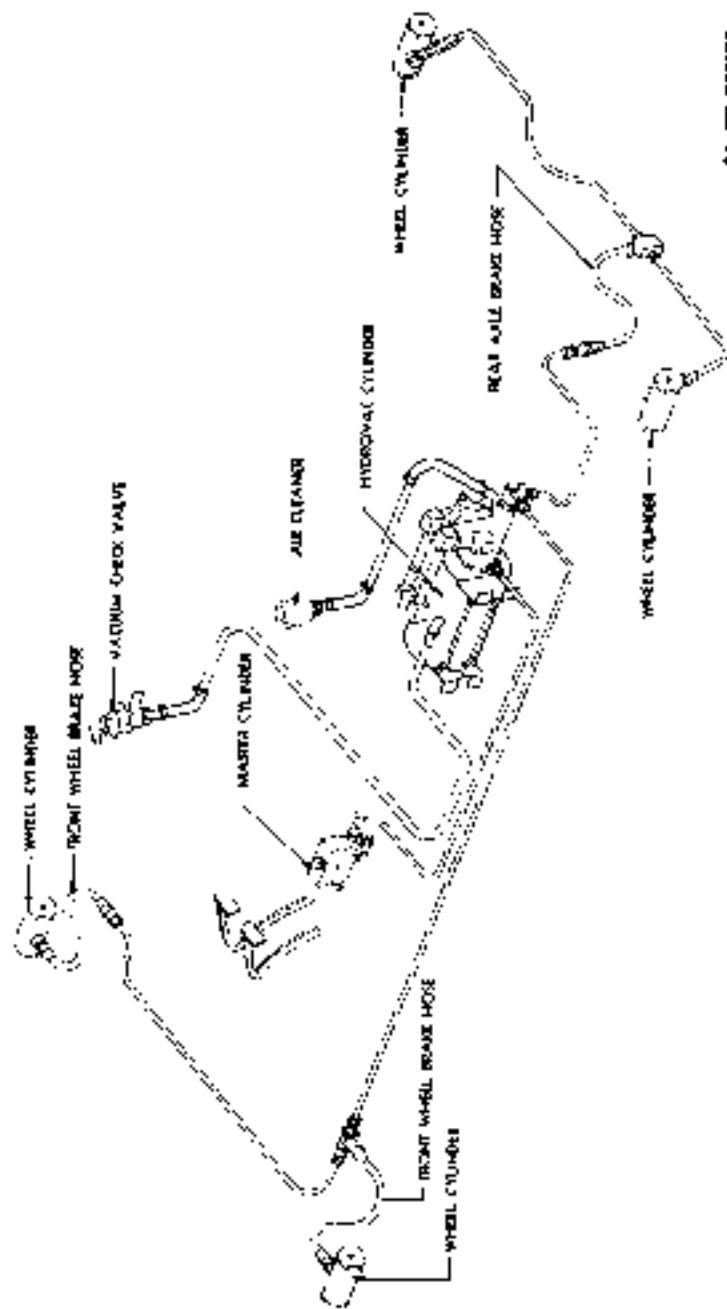

Figure 82—Brake System Layout
a. **Hydrovac air cleaner** is located under the driver's seat and is connected to hydrovac unit (fig. 82). Atmosphere entering power cylinder via relay valve passes through air cleaner and is filtered by the curled hair element within the air cleaner. Element in air cleaner is oiled as an aid in preventing dirt from reaching relay valve and power cylinder.